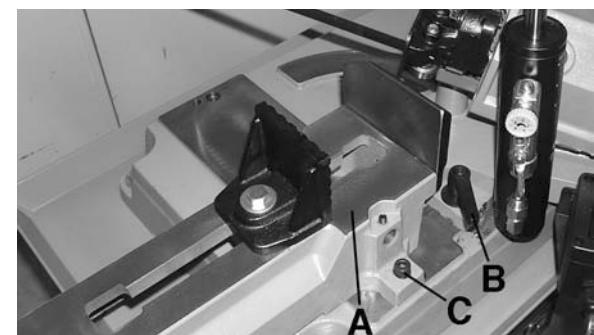

FIGURE 15
**To set up for a 0°- 60° miter cut to the left**, first make sure the table (A) Fig.15 is positioned as shown. Normally the table is positioned for 45° cuts to the right, but for 60° cuts to the left, the table must be reinstalled on the other side of the machine base as shown in Fig.15. Simply remove cap screws (C), reposition table and secure into place using the same 2 cap screws. Loosen miter base lock handle (B) and pivot miter base by pulling the motor towards the front until the desired angle is obtained, retighten miter base lock handle. You are now ready for a 0°- 60° miter cut to the left.